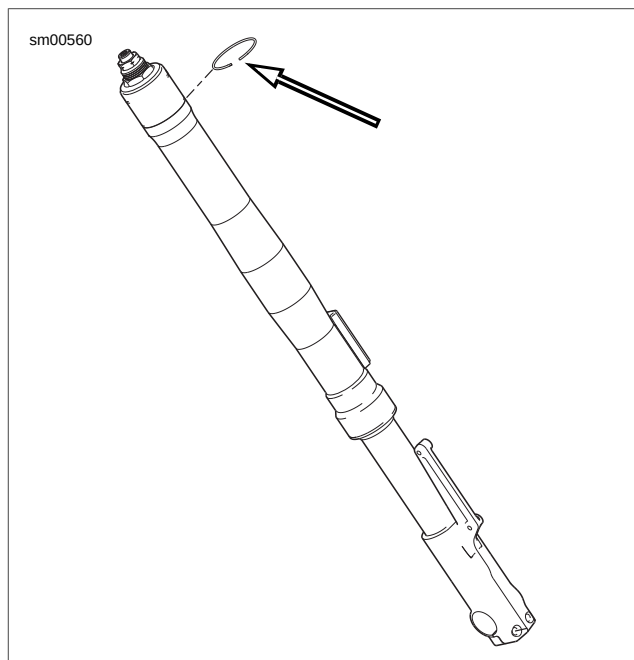

Figure 2-73. Stopper Ring
5. See Figure 2-73. Remove fork from upper fork clamp and slide the stopper ring up and over the top of the fork.